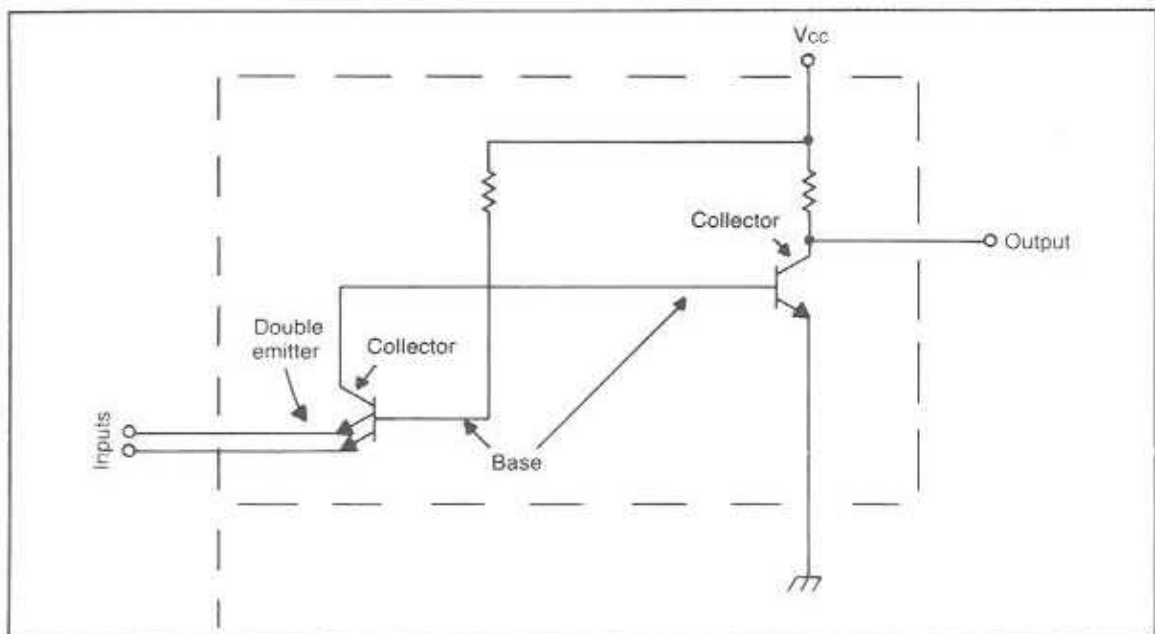

Fig. 4-1. The TTL (Transistor-Transistor-Logic) chips are based around special transistors with double emitters.
74. These are usually TTL chips. TTL stands for Transistor-Transistor-Logic. The TTL name is given because, as shown in Fig. 4-1, the input transistor on such a chip is a bipolar type but is endowed with double emitters.